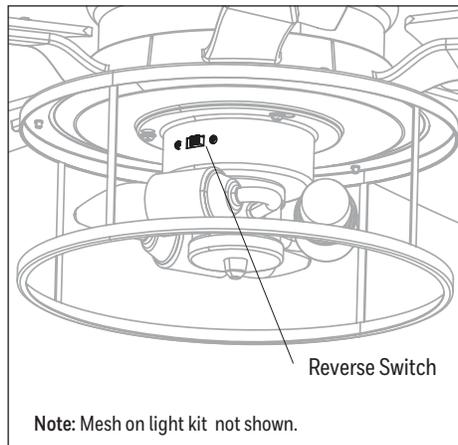

Figure 6.2
2. Use the reverse switch located on the light kit to optimize your fan for seasonal performance. **In warmer weather**, push the reverse switch left which results in downward airflow creating a wind chill effect. **In cooler weather**, push the reverse switch right which results in upward airflow that will help move hot air of the ceiling (Figure 6.2). **Important:** Wait for the fan to stop before moving the reverse switch located on the light kit. The reverse switch must be set either completely left or right in order for the fan to function correctly. If the reverse switch is set in the middle position, the fan will not operate (Figure 6.2).